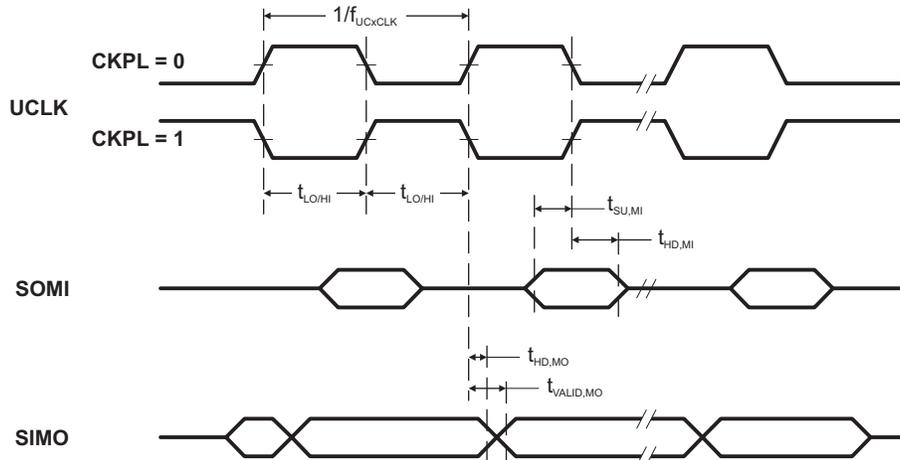
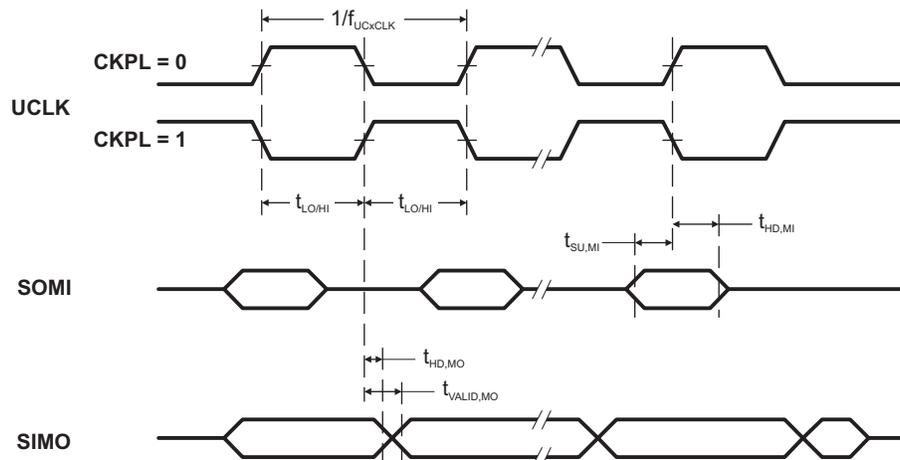

Figure 13. SPI Master Mode, CKPH = 0
Figure 14. SPI Master Mode, CKPH = 1
(see Note (1), Figure 13 and Figure 14)
(2) Specifies the time to drive the next valid data to the SIMO output after the output changing UCLK clock edge. See the timing diagrams in Figure 13 and Figure 14.
(3) Specifies how long data on the SIMO output is valid after the output changing UCLK clock edge. Negative values indicate that the data on the SIMO output can become invalid before the output changing clock edge observed on UCLK. See the timing diagrams in Figure 13 and Figure 14.